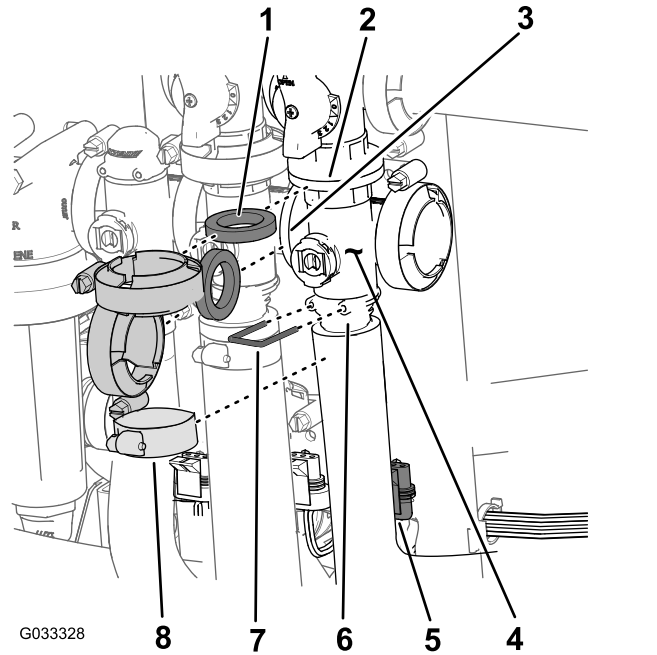

Figure 72
- Remove the clamps and gaskets that secure the manifold for the master-section valve (Figure 72) to the master-section-bypass valve, agitation valve, and master-section-manifold valve (at the end of the hose for the flow meter).
- Remove the retainer that secures the outlet fitting to the manifold for the master-section valve (Figure 72).